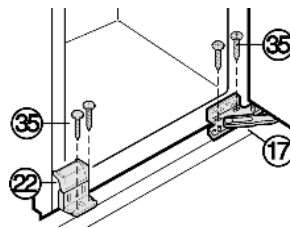

Fig. 33
- ▶ To fix appliance at bottom: Fasten the appliance with screws *Fig. 33 (17)* through the turn hinge *Fig. 33 (35)*.
- ▶ Fasten folding bracket *Fig. 33 (22)* to the unit base with screws *Fig. 33 (35)*.
- ▶ Fold down the cover of the folding bracket *Fig. 33 (22)*.